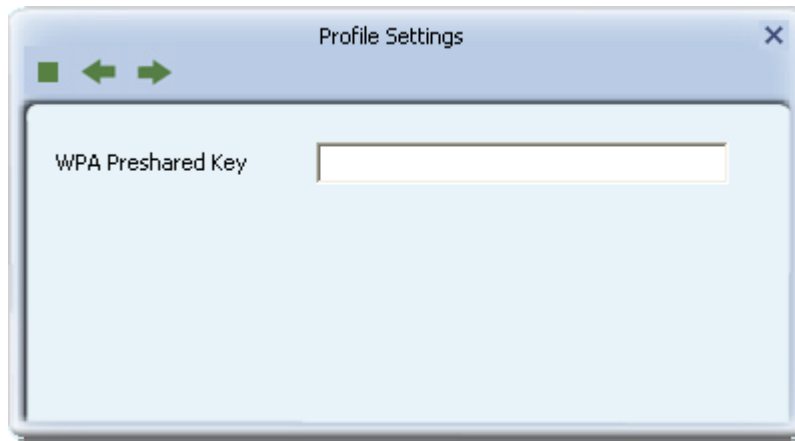

Figure 3-10: WPA Preshared Key
Step 4: Click  to continue, as shown in **Figure 3-10**.